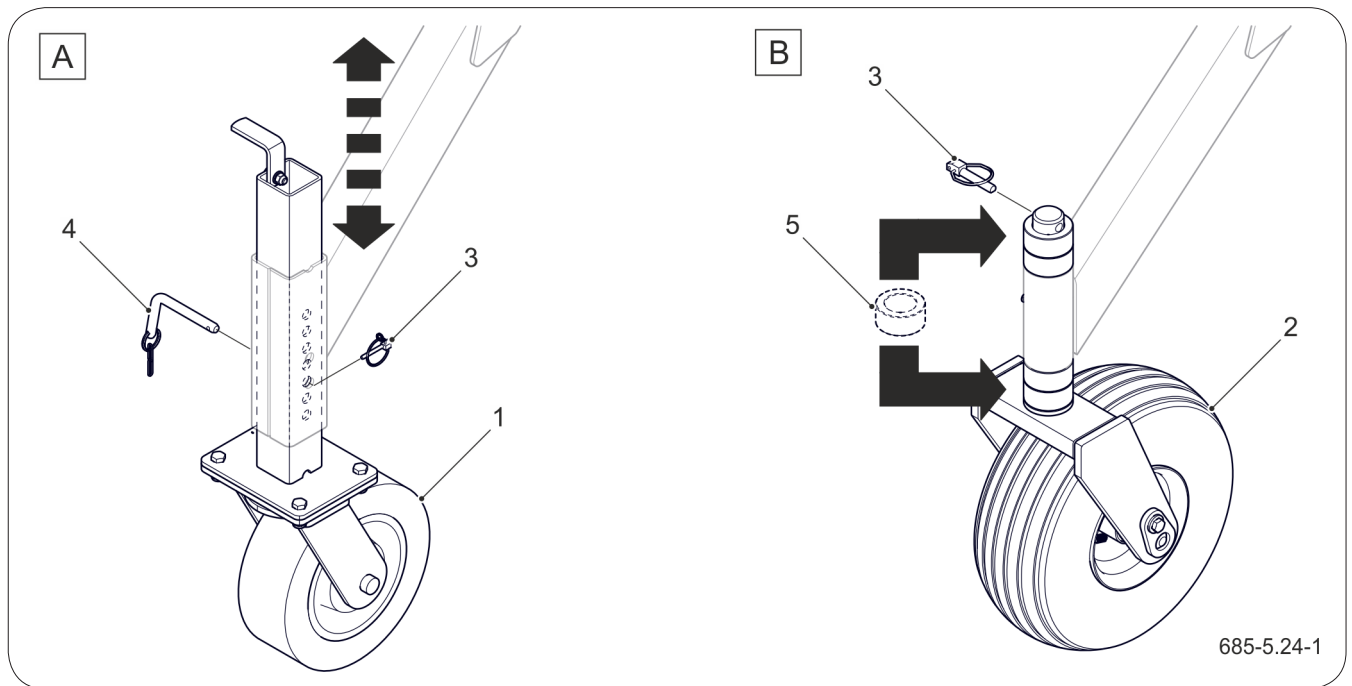

Figure 5.10 Height adjustment of the front support wheel, depending on the version
Depending on the version (Figure 5.10), the height of the front wheel is adjusted by repositioning the cotter pin in the bore of the wheel column or by repositioning the spacer rings (5).